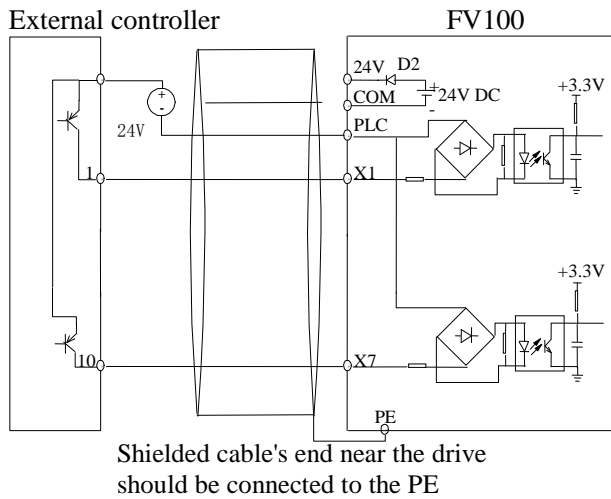

Fig 4-12 Use external power supply
4) Use external power supply for drain connection (Make sure the PLC and 24V terminal is disconnected). As shown in the fig 4-12